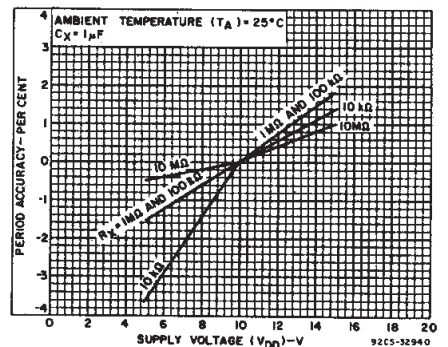

Fig. 11—Typical astable oscillator or Q, Q̄ period accuracy vs. supply voltage.
**B. Variations Due to  $V_{DD}$  and Temperature Changes** — In addition to variations from unit to unit, the astable period varies with  $V_{DD}$  and temperature. Typical variations are presented in graphical form in Figs. 11 to 18 with 10V as reference for voltage variations curves and 25°C as reference for temperature variations curves.